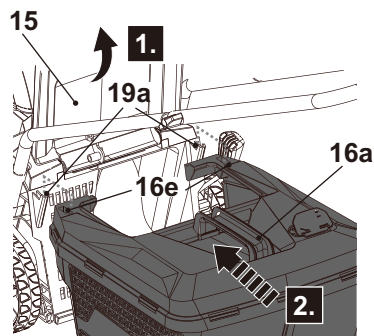

Fig. 8
- Open the deflector guard (15) and hold it in position (Fig. 8, step 1).
- Carry the grass catcher (16) by its carry handle (16a).
- Align the grass catcher hanging holes (16e) with the hooks (19a) and hang the grass catcher (16) on (Fig. 8, step 2).
- Carefully release the deflector guard (15) afterwards.